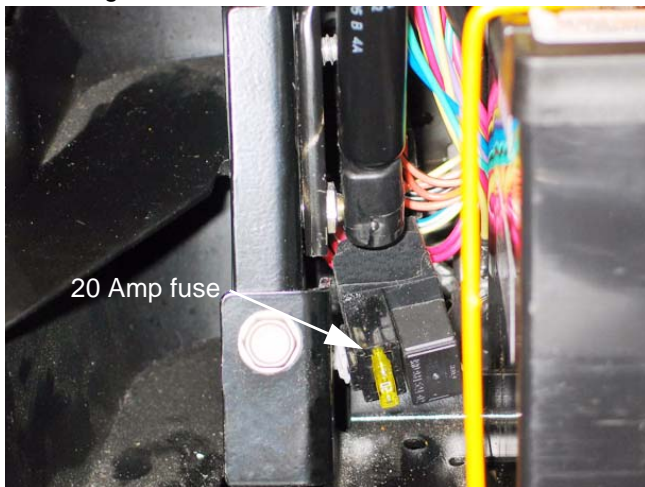

Figure 39.12
39.12. The 20A fuse is located near the RMC module / key switch assembly, under the dash panel. See Figure 39.12.